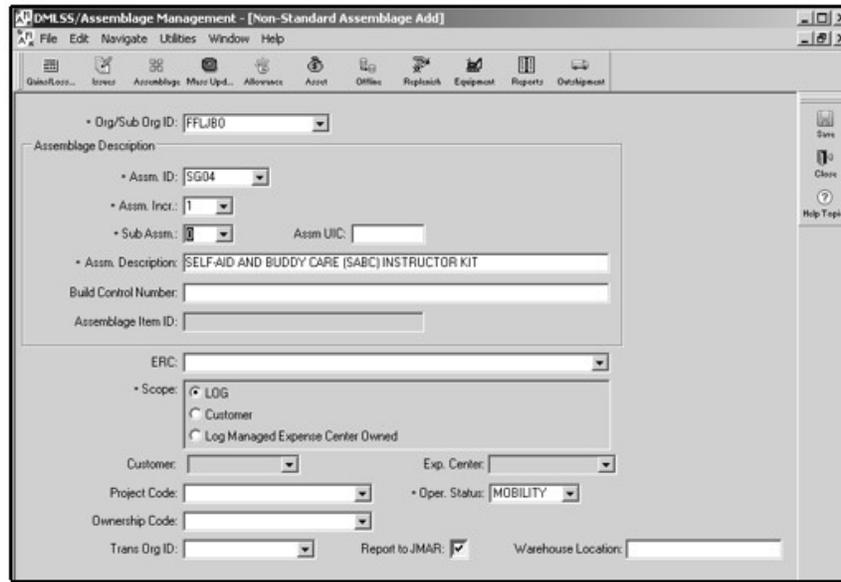

Figure 39. Non-Standard Assemblage Add Window
(1) Once the non-standard assemblage is loaded (paragraph y. in this enclosure), use the “Non-standard Assemblage Add” function to complete the process of creating the initial instance of the assemblage. This option is also used to create additional instances of the assemblage using the same assemblage ID.
(2) Select “Non-standard Assemblage Add” from the “Navigate” menu to access the “Non-standard Assemblage Add” window shown in Figure 39 (below). Data required in this window is the same data required when adding a standard assemblage. Follow the instructions provided in paragraph u. (above) of this enclosure to complete the process of creating a non-standard assemblage.